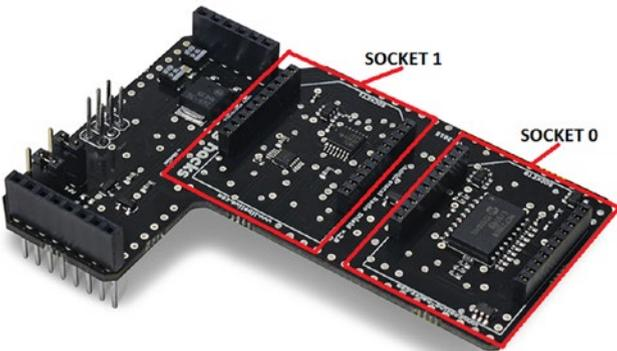

Figure 7-2. Top view of a Multiprotocol Radio Shield. Image courtesy of Libelium (<https://www.cooking-hacks.com>)
■ **Note** The multiprotocol shield has *two sockets* (Figure 7-2) that you can use to connect any hardware module that's **UART**-enabled. The two sockets are named **SOCKET0** and **SOCKET1**. A socket consists of *2mm female pin headers*, which makes a total of *20 connections*. (**UART** stands for Universal Asynchronous Receiver Transmitter and it's one of the most popular serial protocols around.)